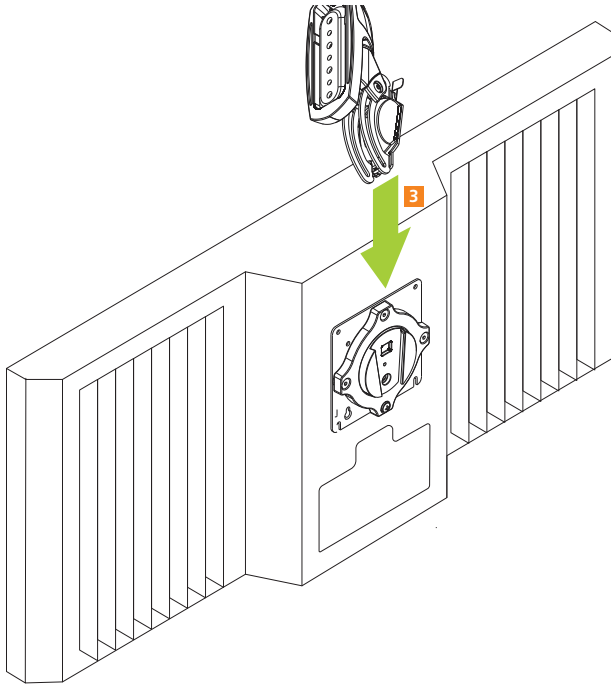

Figure 1-21 Position radiator onto Lingua RAD mount
4. Position radiator with faceplate attached above mount. (See Figure 1-21 )